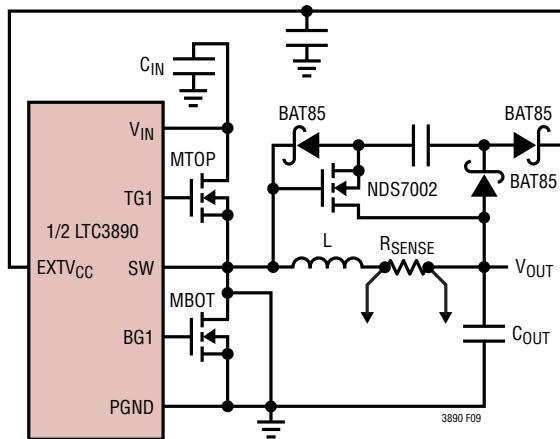

Figure 9. Capacitive Charge Pump for  $\text{EXTV}_{\text{CC}}$
4.  $\text{EXTV}_{\text{CC}}$  Connected to an Output-Derived Boost Network. For 3.3V and other low voltage regulators, efficiency gains can still be realized by connecting  $\text{EXTV}_{\text{CC}}$  to an output-derived voltage that has been boosted to greater than 4.7V. This can be done with the capacitive charge pump shown in Figure 9. Ensure that  $\text{EXTV}_{\text{CC}} < \text{V}_{\text{IN}}$ .